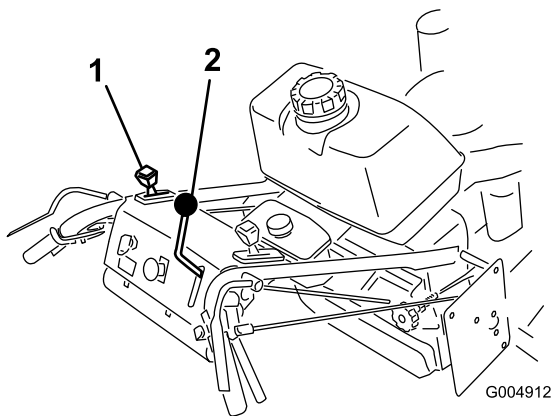

Figure 10
4. Slowly release the drive levers to move forward (Figure 10).
To go straight, release drive levers equally (Figure 10).
To turn, squeeze the drive lever on the side and direction you want to turn (Figure 10).
From neutral position, slowly squeeze the drive levers to move rearward (Figure 10).